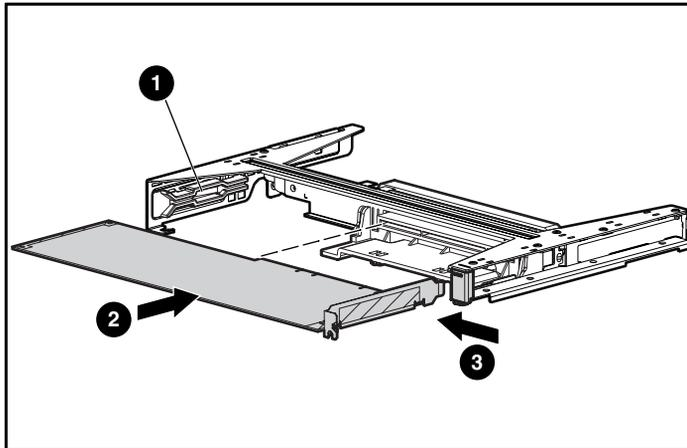

Figure 3-21. Inserting an expansion board into expansion slot 1
6. To install an expansion board into slot 1 (Figure 3-21)
- a. Align the expansion board with the slot guide ❶.
- b. Slide the expansion board into the slot and ensure the board seats firmly ❷.
- c. Slide the expansion board retaining clip back into place ❸, securing the end of the expansion board against the assembly.